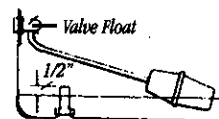

FIGURE 15
3. Turn on water and adjust float valve by bending the rod (see Figure 15).